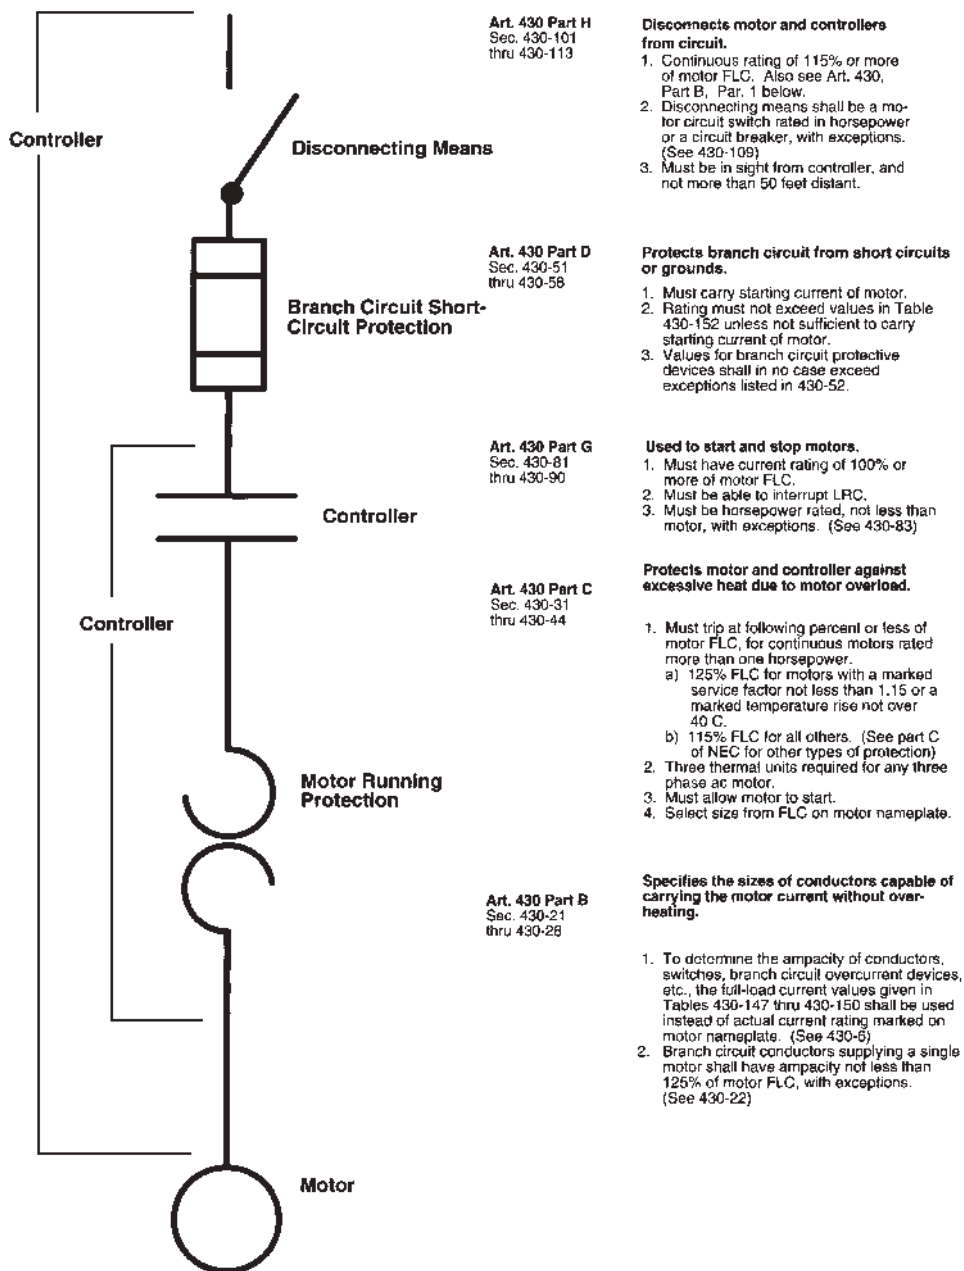

Figure 11.4 Typical NEC diagram; several are scattered throughout the NEC for clarity.
5. *Diagrams*: A few diagrams are scattered throughout the NEC to illustrate certain NEC applications (Fig. 11.4).